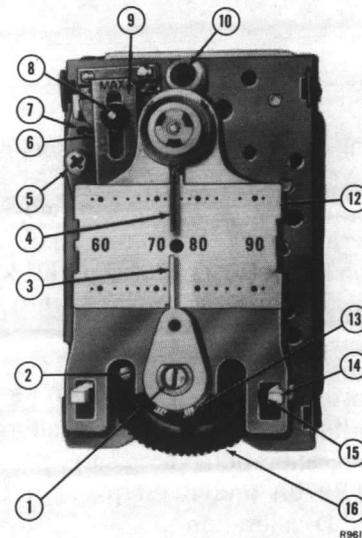

Fig. 18. Internal View of Thermostat.
1. Insert the blade of a small screwdriver under the bimetal (4, Fig. 18) and pry up. Older style thermostats have a locking ring. Inserting the blade between the ring and white nylon bushing, pry the ring from the thermometer bimetal mounting post.
1. Remove the setpoint indicating pointer (3, Fig. 18) by prying it off the indicator post with a small screwdriver.
6. Reassemble thermostat, being sure that the antihum spring (7, Fig. 18) is properly positioned. Position the spring so it just touches the flapper. Be certain the base of the spring (larger end) is seated properly in the recess of the spring mounting hole.